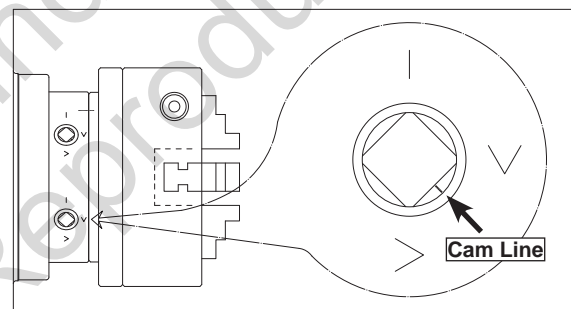

Figure 25. Cam and lines.
7. Turn a camlock with the chuck key until the cam line falls between the "V" marks shown in Figure 25.